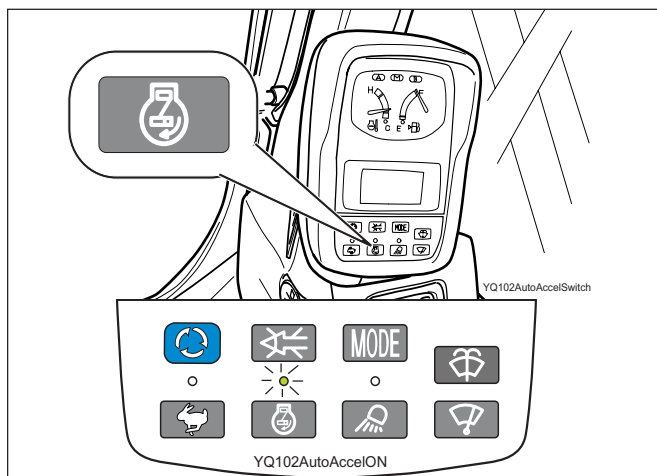

FIGURE 2.7D
5. Auto Accel Switch– FIGURE 2.7D